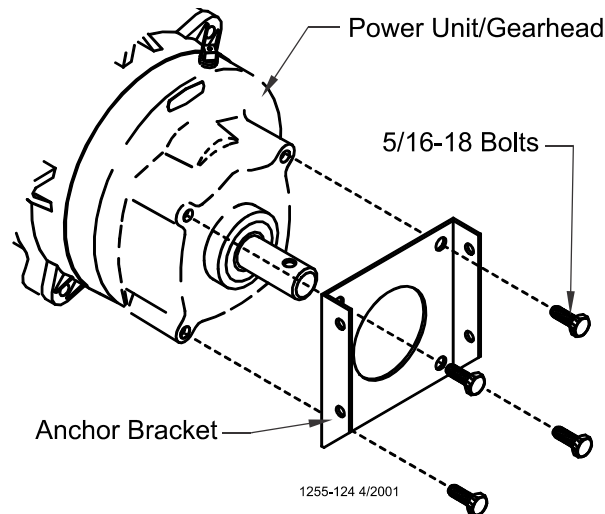

Figure 43. Assemble the Anchor Bracket to the Power Unit/Gearhead
3. Install the Anchor Bracket to the Power Unit/Gearhead, as shown in **Figure 43**, with the included 5/16-18 Bolts.